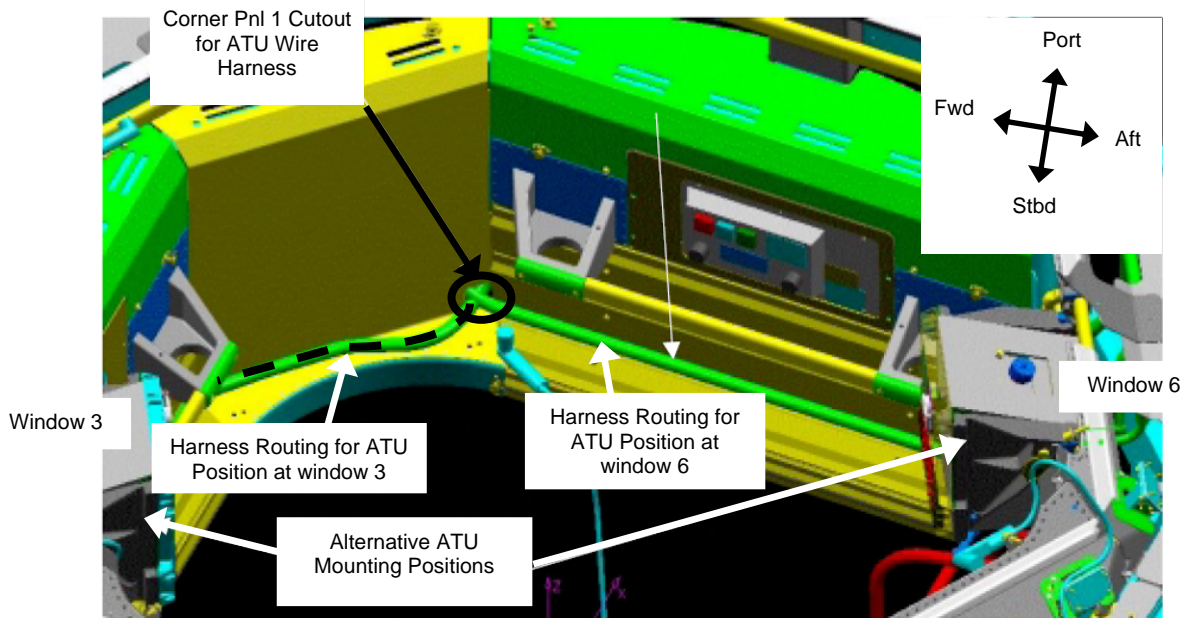

Figure 12.- ATU Wire Harness Routing.
- 5.4 Route CP2103F and CP2102F to ATU according to Figure 12 (Corner Panel 1 will not be present at this time).